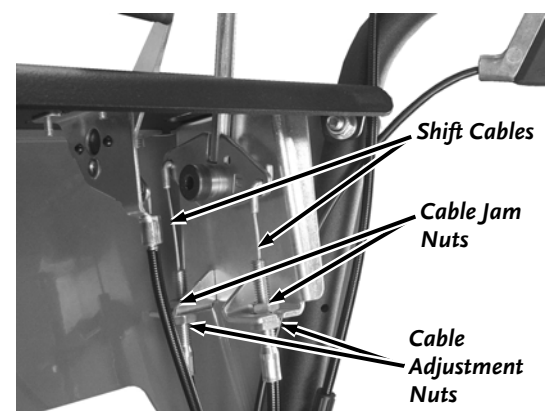

Figure 32
1. Locate the Shift Cable Adjustment Nuts on the Shift Lever end of the cable (**Figure 32**).